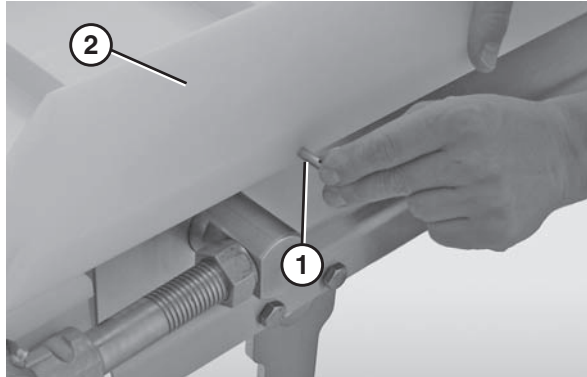

Figure 41
1. Remove the guides, if applicable, by removing the pull pins (**Figure 41, item 1**) that connect the guide (**Figure 41, item 2**) to the frame.